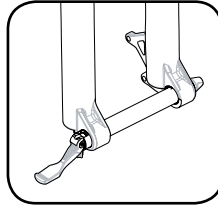

Fig. 2
1. Place Maxle lever in the open position (**Fig. 2**). Ensure the lever engages with the corresponding slot in the axle.